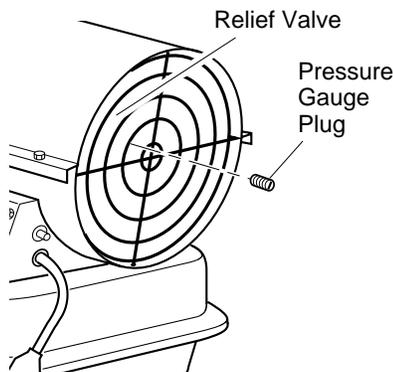

Figure 8 - Pressure Gauge Plug Removal
14. Place fine grade sandpaper (600 grit) on flat surface. Sand rotor lightly in "figure 8" motion four times (see Figure 19).